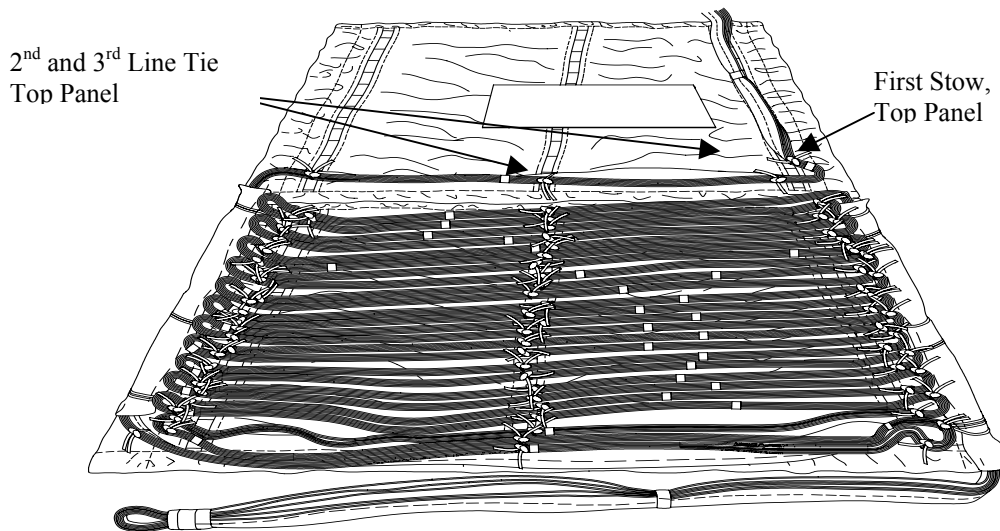

Figure 8. Extraction Line Tied to Top Panel with First Stow.
- h. Route extraction line to the lower left side of the top panel. Make the first line tie on the bottom left corner of top panel. Make the second line tie on the bottom middle of the top panel and make the third line tie and the first regular stow on the bottom right corner of the top panel (figure 8).